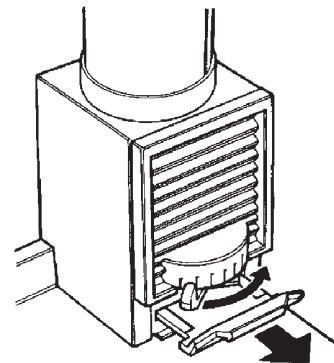

Fig. 11
- Open flue chamber damper to maximum (Fig. 11).
- Flue dilution lever fully to 'left' (flue chamber door closed, Fig. 11).
Turn the flue dilution lever (See Fig. 11) from left to right hand so that the flue chamber door opens at the bottom and minimise burning rates.